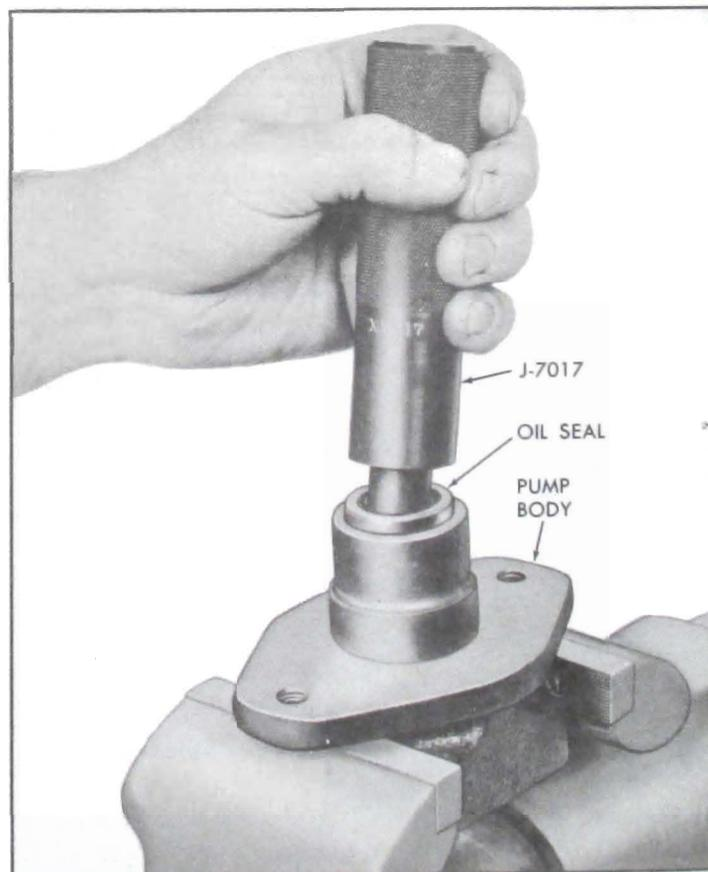

Figure 8-47—Installation of Drive Shaft Seal (Standard Pump)
4. Using Installer 7017 (standard pump) and 7111 (Air Poise pump) drive seal into pump. See Figures 8-47 (standard) and 8-48 (Air Poise Pump).